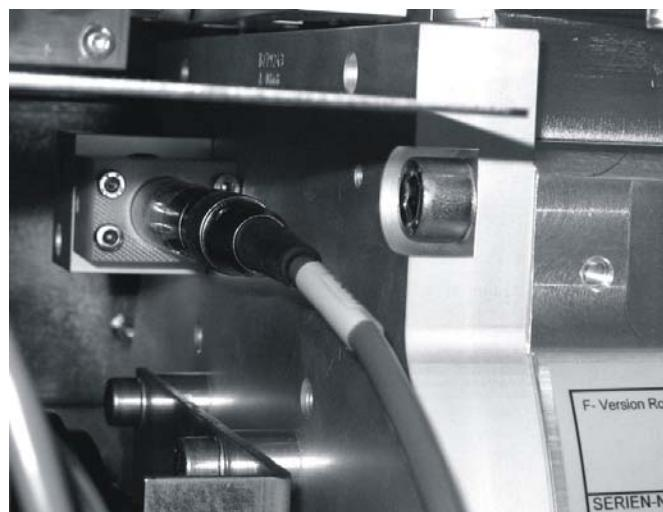

Figure 21: Pressure sensor signal line
22. Disconnect the pressure sensor signal line (see Figure 21).